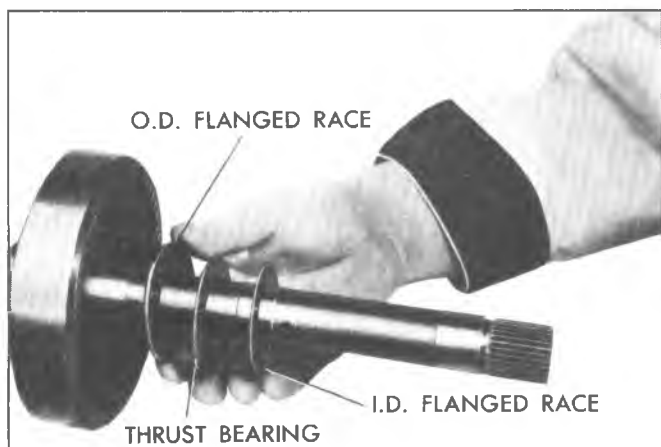

Fig. 117T--Installing Rear Internal Gear to Sun Gear Bearing and Races
- a. Place large race against internal gear with outer flange facing forward or up (fig. 117T).